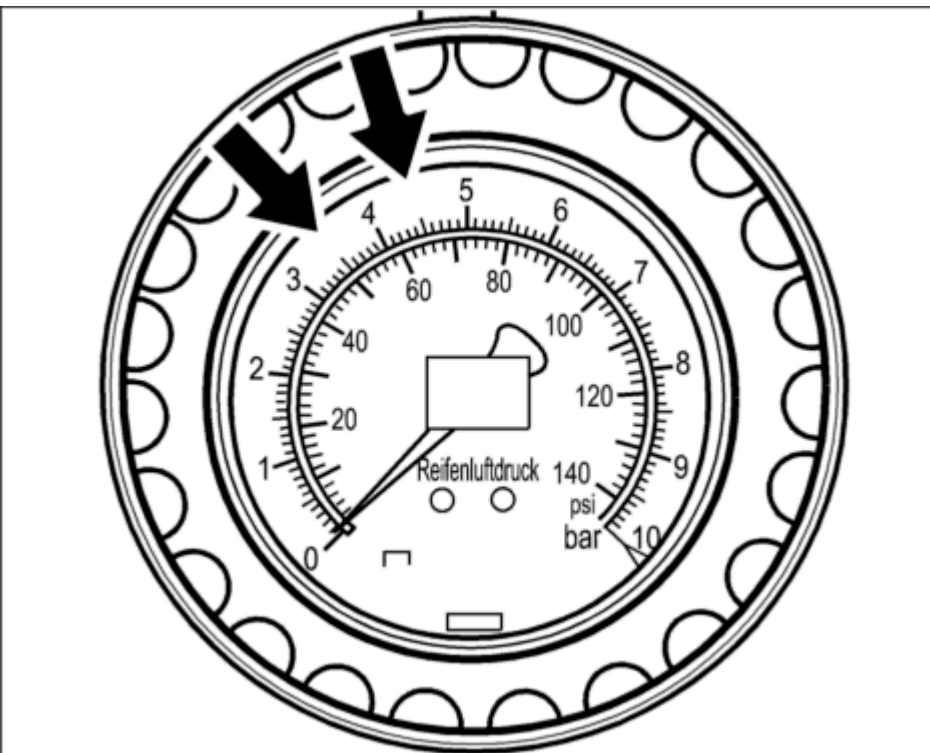

Fig. 8: Pressure gauge
6. Overcome the counter-pressure of the residual pressure retaining valve with several individual pressure shots and fill the air-spring strut. When sufficient air has been filled, between 2.5 and 4.5 bar **-arrows-** , pull off the connection from the residual pressure retaining valve. Do not exceed the maximum value of 4.5 bar. See **Fig. 8**.